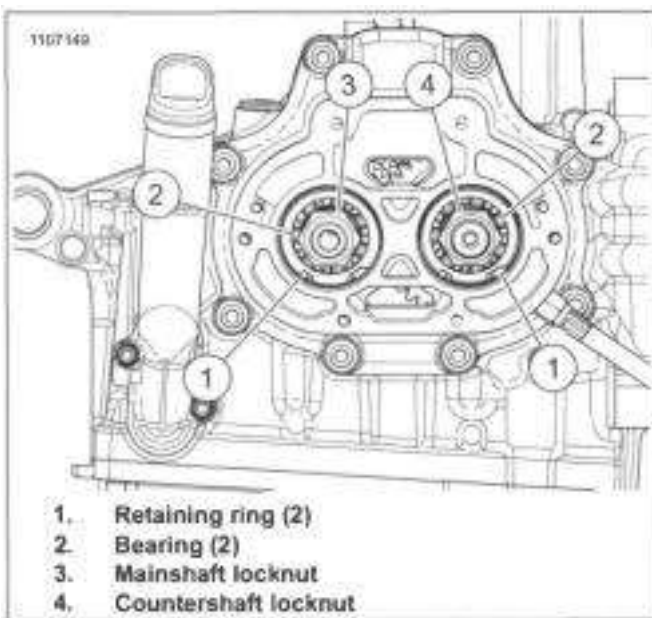

Figure 5-49. Bearing Housing Locknuts
6. See Figure 5-49. Remove mainshaft and countershaft locknuts.